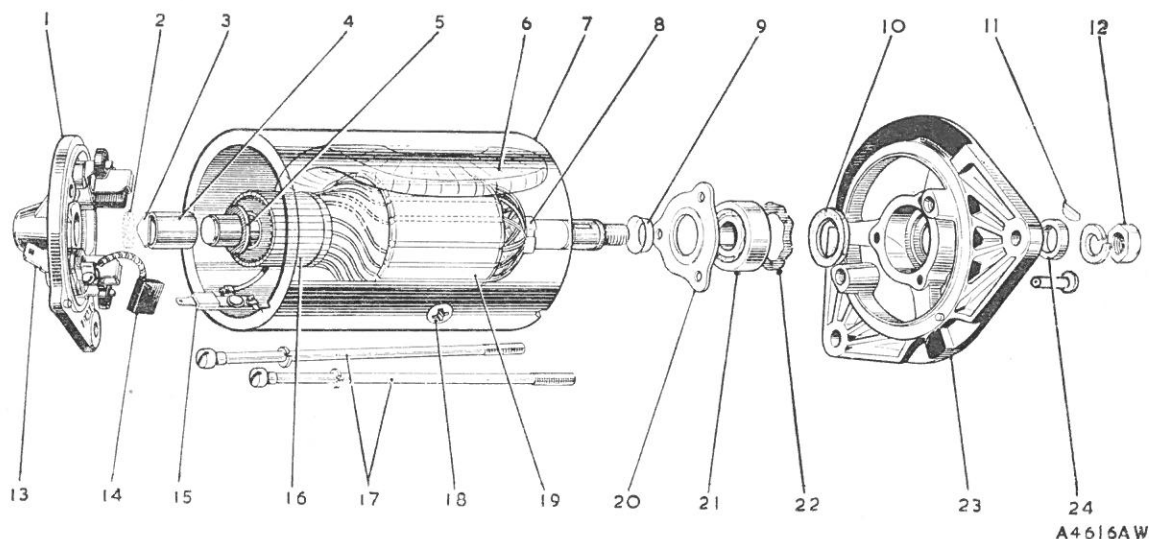

Fig. N.1
- (11) Mark the position of the pole-shoes relative to the yoke.
- (12) Withdraw the pole-shoe securing screws (Fig. N.1) draw the shoes and coils from the yoke and remove the coils from the shoes.
- (13) Fit new coils to the shoes and refit them to the yoke with the shoes in their original positions. Refit the insulating piece at the junction of the coil windings, insert the screws, press the shoes in place with an expander, and tighten the screws (Fig. N.1).